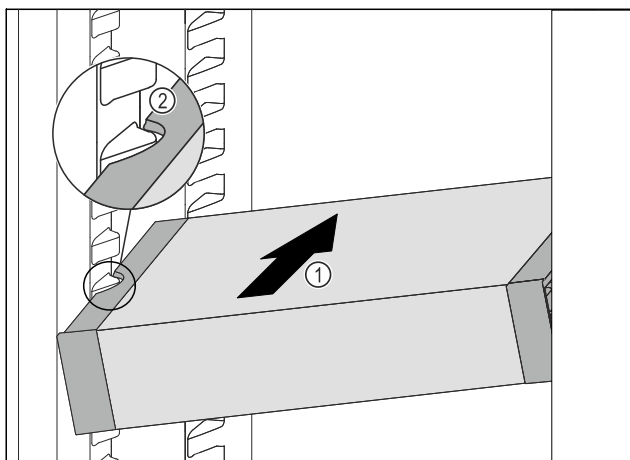

Fig. 137
- Insert the VarioSafe into the refrigerator compartment at an angle Fig. 137 (1) until the recesses in the side Fig. 137 (2) of the VarioSafe are at the level of the support rib in the refrigerator compartment.